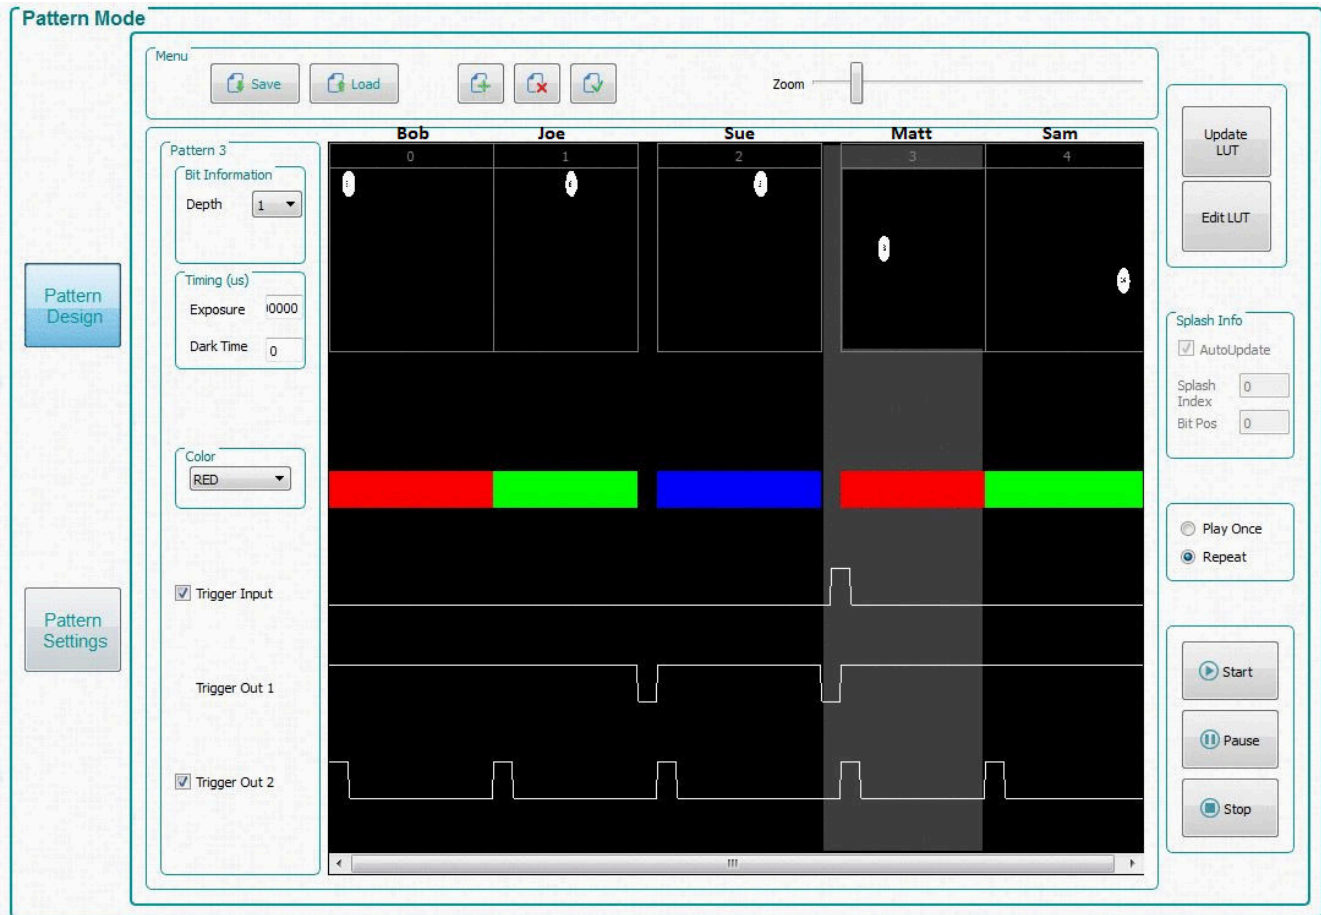
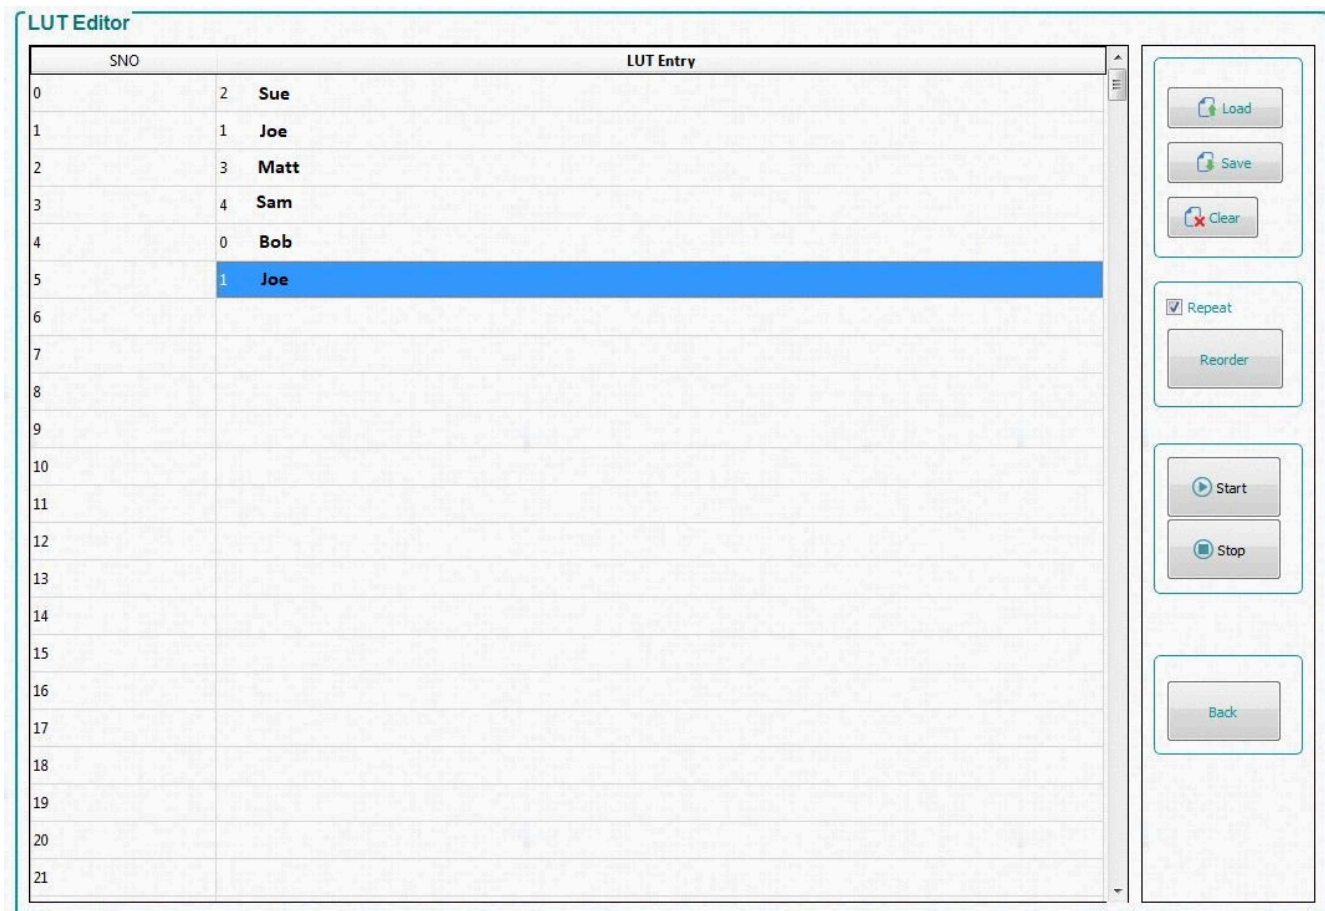
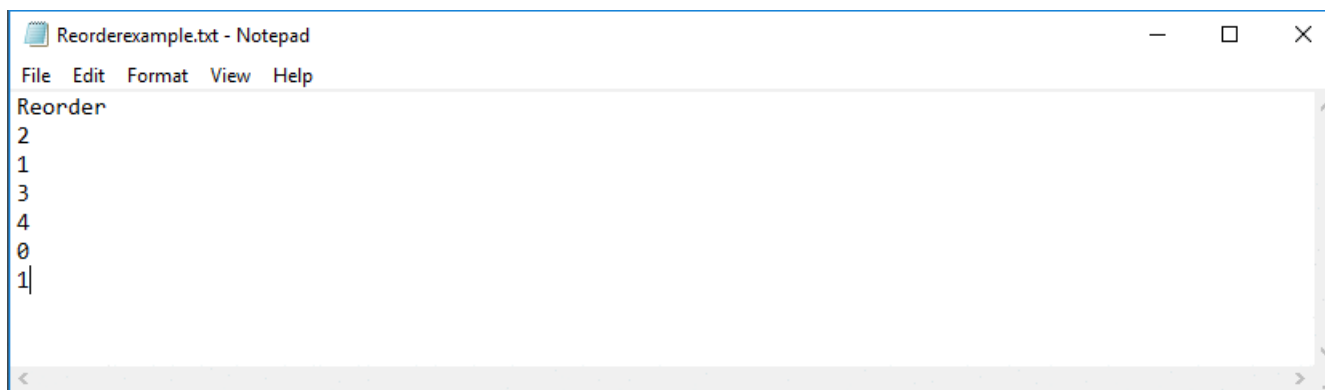

Figure 6-11. Pattern Design Example
Figure 6-12. LUT Editor Panel
Figure 6-13. Reorder Example
The names Bob, Joe, Sue, Matt, and Sam in Figure 6-11 and Figure 6-12 do not actually appear in the GUI but are for explanation purposes used in Figure 6-13. In the GUI only numbers are used.
The *LUT Editor* panel is shown in Figure 6-12 where the column labeled *SNO* (for example, sequence number) represents the pattern display slot numbers according to the order set (after clicking *Update LUT*) in the *Pattern Design* tab as shown in Figure 6-11. The user can then reorder those patterns by either manually entering the pattern number of choice into a row in the *LUT entry* column or loading a text file beginning with the word *Reorder* followed by the desired numerical pattern slots as shown in Figure 6-13.
1. By following the steps similar to Section 6.6.2, load five patterns in *Pattern On-The-Fly-Mode* as shown in Figure 6-11.
7. Click the *Edit LUT* button to open the *LUT Editor* panel as shown in Figure 6-12. This panel initially opens with an empty *LUT Entry* column.
8. To reorder the patterns, enter a 2 in *LUT Entry* row 1, and subsequently a 1, 3, 4, 0, and 1 as shown in Figure 6-12.
13. Browse to wherever the text file was saved, and open the file in a text editor program as shown in Figure 6-13.
When using the GUI interface, each pattern carries several items of information corresponding to the slot that was inserted in the original LUT order. Therefore, when reordering a pattern to a different slot in the LUT, the LUT retains the original assigned bit information, timing (exposure and dark time), LED color, and trigger information and not the information that is located in the reassigned slot in the LUT. For example, if pattern 3 contains a trigger input to begin the user's execution in Figure 6-11 and is reordered to slot 2 as shown in Figure 6-12, then the trigger input is now located at slot 3 in the LUT rather than slot 0.
TI recommends to understand the *Edit LUT* feature by giving names to the patterns, as shown above the patterns in Figure 6-11, and treating them as the batting order in a baseball game making easier to picture the distinction between the slot order numbers in the *SNO* column (the new batting order) and the patterns that are inserted into the *LUT Entry* column (the batters). For example, Bob retains his batting statistics independent of his batting position (for example, bit information, timing, color, trigger), so if he originally bats first (slot 0 in Figure 6-11) but is moved to fifth in the new batting order (reorder LUT entry 4 in Figure 6-12) he retains all of his properties. The only difference is that now he does not bat (for example, is not displayed) until after the four batters (patterns) preceding him (Sue, Joe, Matt, and Sam). Notice also that in our example Joe bats twice in the new batting order (SNO 2 and 5). There is only one Joe, who bats twice in the new batting order. In the same way, a pattern in the original pattern list can be displayed in many positions in the reordered display LUT, without adding or removing any patterns in DLPC900 memory. Therefore, in terms of the system memory, the LUT is only changed when using the *Update LUT* feature but never when using the *Edit LUT* (reorder) feature in the Figure 6-11.